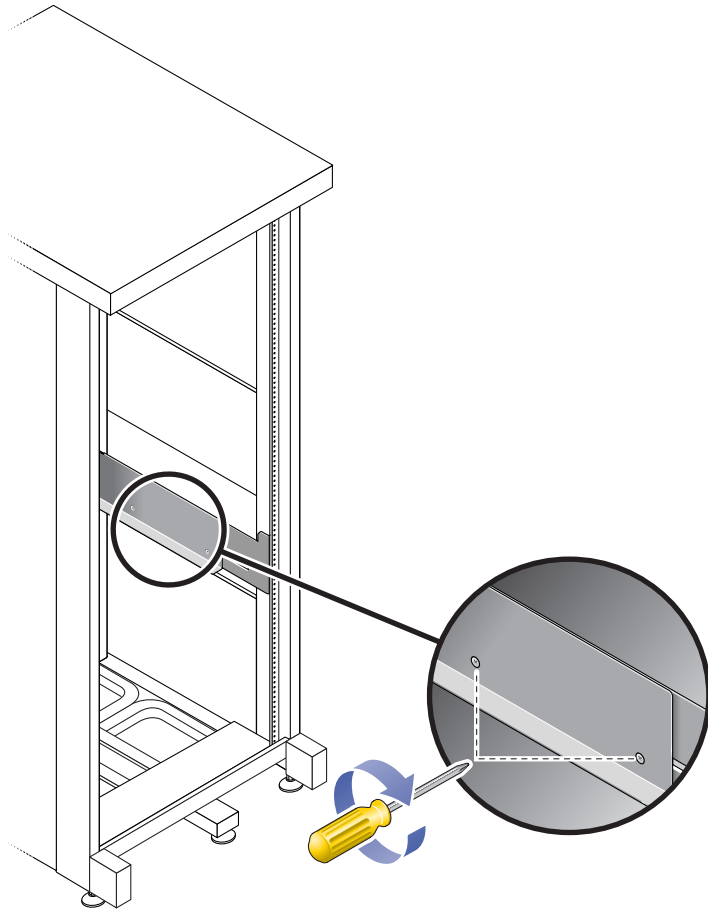

FIGURE 2-10 Tightening the Rail Adjustment Screws
2. Use the #2 Phillips screwdriver to tighten the adjustment screws at the back of each rail (FIGURE 2-10).